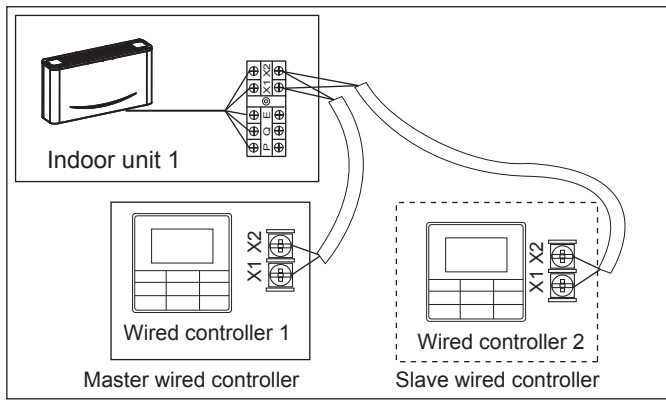

Figure 6.7
- Use 1 wired controller to control 1 indoor unit or 2 wired controllers (one master and one slave controller) to control 1 indoor unit (see Figure 6.7);